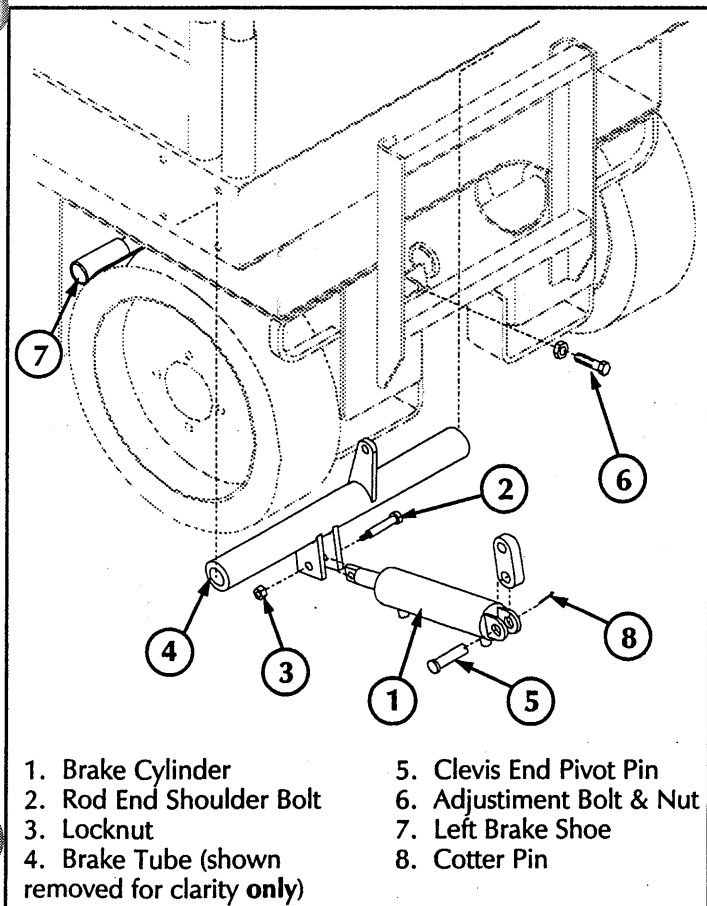

Figure 4-10: Brake Cylinder Installation
4.10 Brake Cylinder (Figure 4-10)